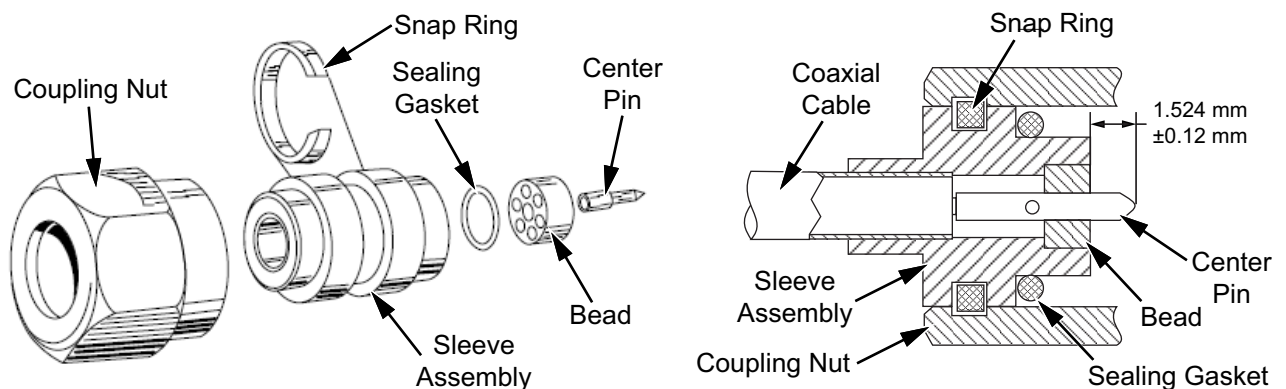

Figure 3-1. K101M-085-R Assembly
Fabrication instructions for the cable assembly are given below. Refer to Figure 3-1 to identify the connector parts referenced in the procedure.
11. Slide the sleeve assembly onto the cable until it reaches the bottom limit of the sleeve. When properly positioned, the center pin will protrude as shown in Figure 3-1, and the sleeve will cover approximately 4.76 mm of the cable. Check pin extension.
- b. That the center pin extends out from the bead as shown in Figure 3-1. For best performance, purge residue solvent by placing the completed cable assembly in an oven and baking at 65 °C for eight hours minimum.